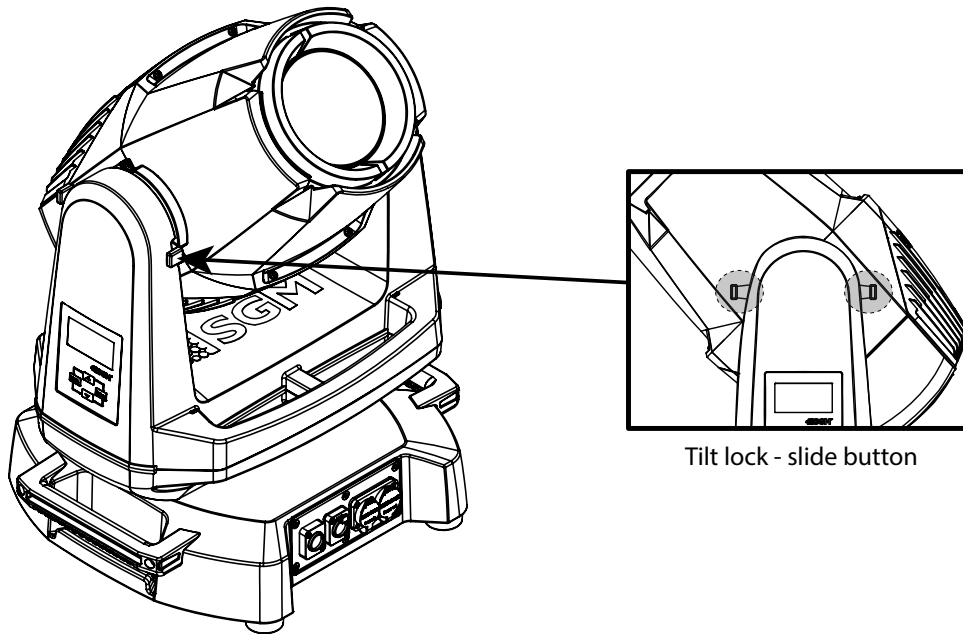

Figure 4: G-7 Spot tilt lock
6. Check if the tilt lock is released. If not, push the slide button shown in the figure 4 to the right to release the tilt lock.